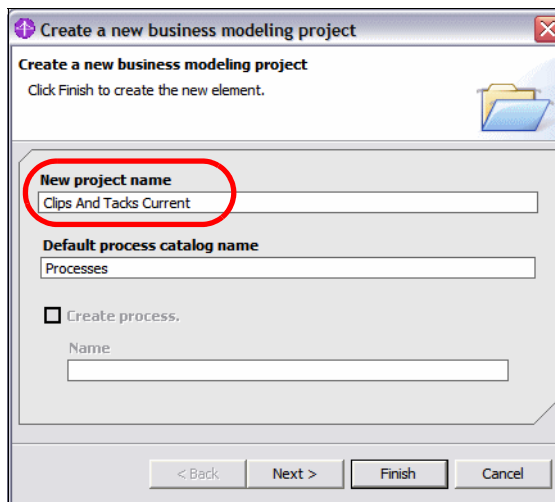

Figure 5-4 Creating a new project *ClipsAndTacks*
- ▶ In the Target project field, select an existing project from the drop-down list or click *New* to create a new project **Clips And Tacks Current**. Click *Finish*. (Figure 5-4).